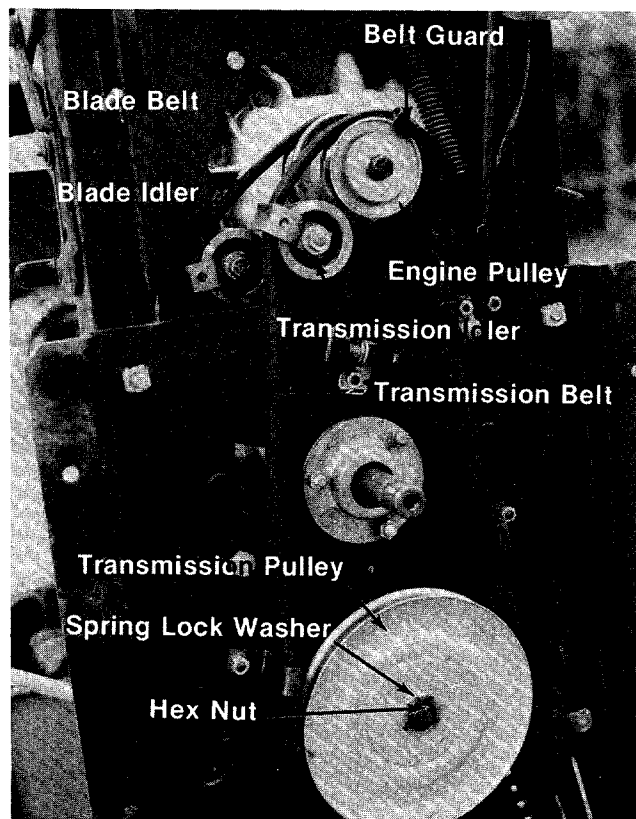

FIGURE 22. BELT SYSTEM
Step 4. Remove the transmission belt from the engine pulley. It may be necessary to spring the belt guard out of the way. When installing the new belt be sure to put the belt guard back in the original position. See figure 22.
- Step 6. Remove hex nut and spring lock washer on the transmission pulley and slide the pulley out until the belt can be removed. See figure 22.
- Step 4. Remove the transmission belt from the engine pulley. See figure 22.
It may be necessary to spring the belt guard out of the way. When installing the new belt be sure to put the belt guard back in the original position. See figure 22.
CREEPING OR BELT WEAR (See Figure 22)
DRIVE PULLEYS (See Figure 22)
BELT WEAR—Belt Guards and Clips (See Figure 22)
CREEPING (See Figure 22)